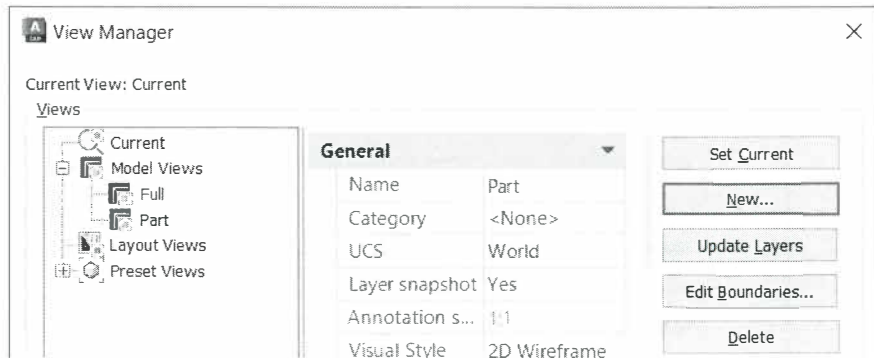

Figure 8–4
- Views that store layer settings are marked **Yes** in the *Layer snapshot* under General properties. You can select a view in the *Views* area and click **Update Layers** (as shown in Figure 8–4) to save the current layer settings with the view.